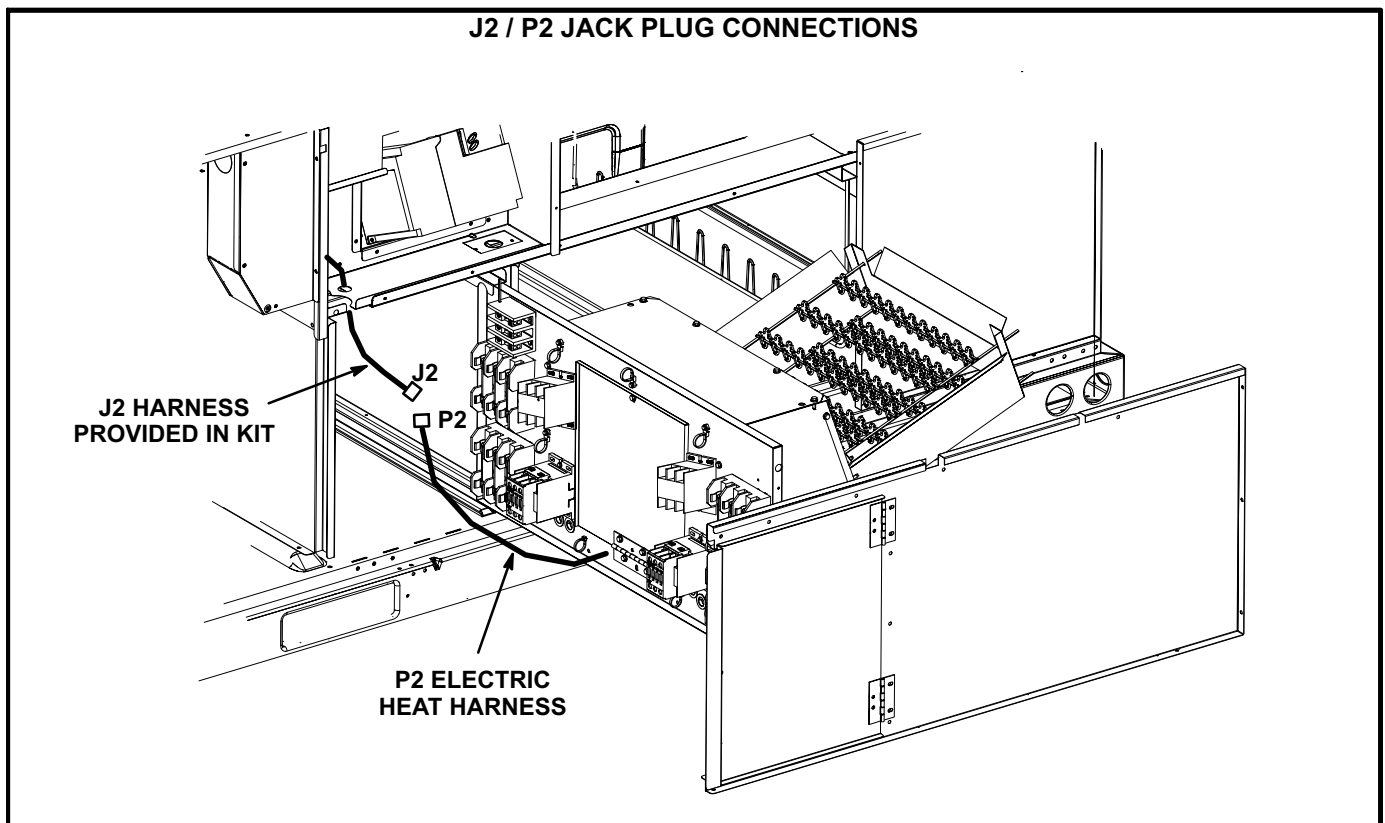

FIGURE 4
- 3- Locate J2 low voltage harness in the electric heat kit. Connect J2 to P2 electric heat plug. See figure 4. Route wires on other end of harness to the control panel. Use the smaller knockout in the bottom of the control panel.